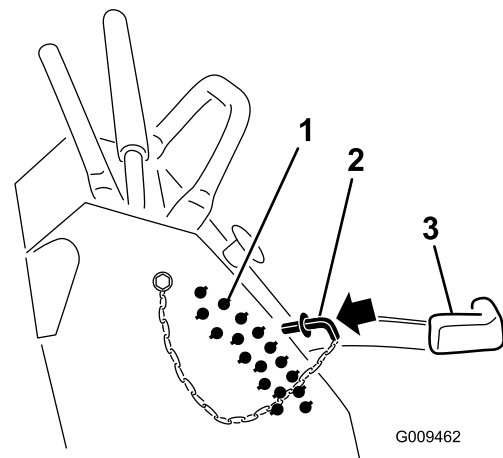

Figure 25
2. Select a hole in the height-of-cut bracket corresponding to the height-of-cut desired and, insert the pin (Figure 25).
3. Lower the height-of-cut lever to the pin (Figure 25).